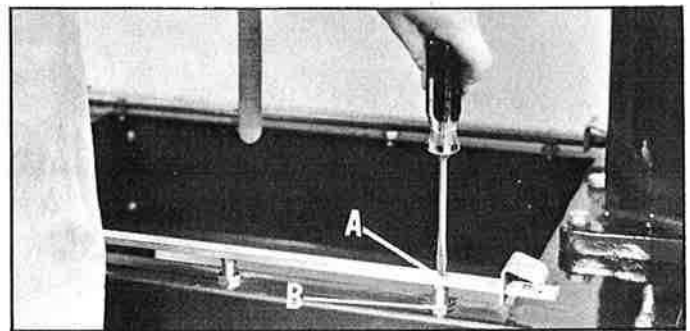

Fig. 13
6. If an adjustment is necessary, remove screw (A) and loosen locknut (B), Fig. 13.